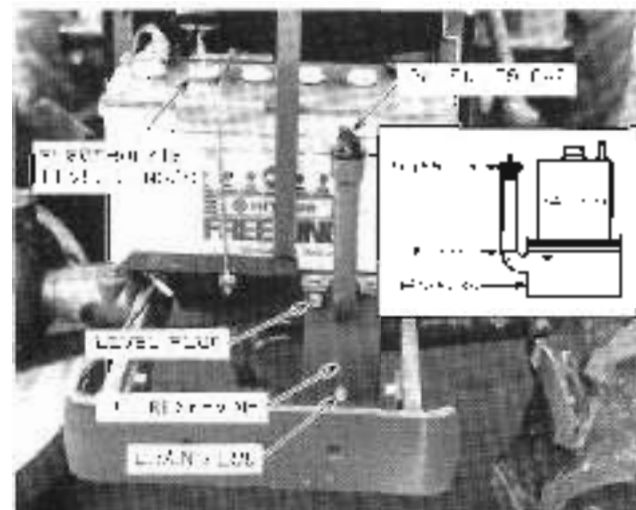

Figure 48 — Power Steering Reservoir and Oil Level
1. When the engine is started, level the vehicle on the chassis hoist (see location) check the oil level, figure 48.